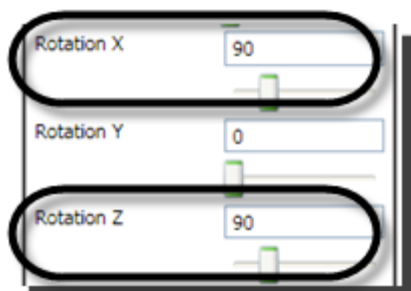

Figure 191
3. Using the **Rotation X** and **Rotation Z** sliders, rotate the winch model until it is standing upright (Figure 191).